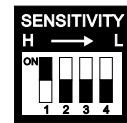

Figure 3
3. Set sensitivity **ON** (90%) in dip switch 1 (Figure 3). LED indicator will turn off and no signal output. Then set sensitivity all in **OFF** position. LED indicator will turn on again to complete the calibration procedure.